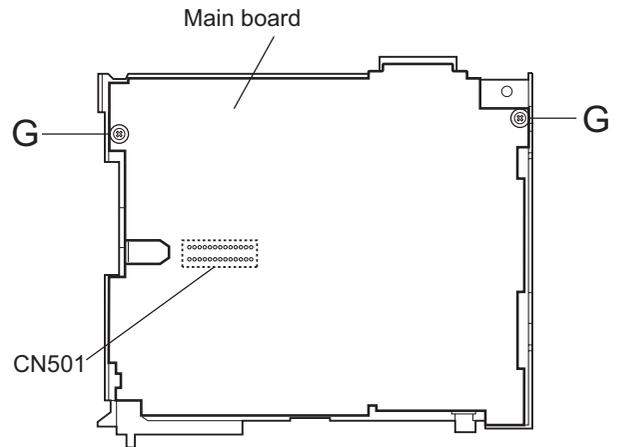

Fig.8
**(See Fig.8)**
- (1) Remove the two screws **G** attaching the main board.
- (2) Disconnect connector CN501 and remove the main board.